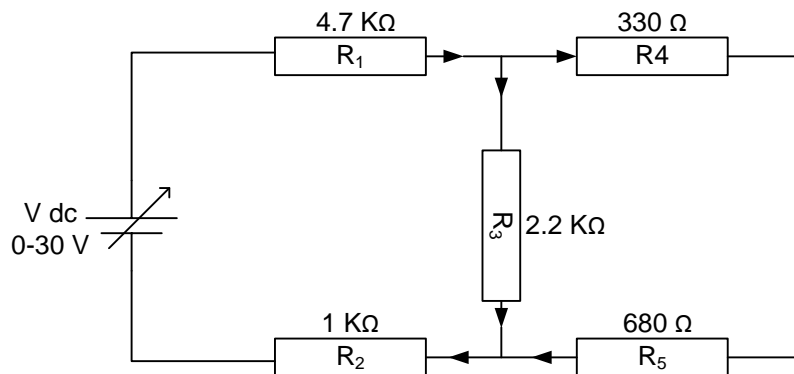

Figure 3: Kirchhoff's laws experiment setup.
1. Connect the circuit as shown in Figure 3.